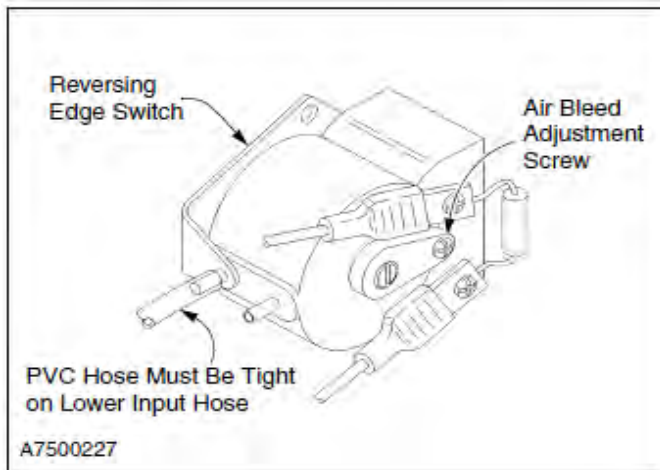

Figure 47
2. Make sure the clear PVC hose is in tight contact with the air input post so that air leakage cannot occur and that vibration will not cause the hose to fall off. Make sure the hose is not kinked. (See Figure 47.)
3. The air bleed has been set at the factory and should not require adjustment. To check the air bleed, turn the air bleed adjustment screws located on the front and back of the switch fully clockwise but do not overtighten. Then turn the screws back counter-clockwise one full turn. (See Figure 47.)